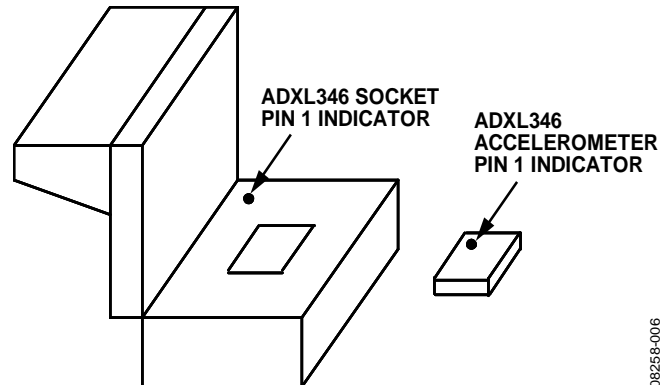

Figure 15. Location of Pin 1 Indicators for the ADXL346 Accelerometer and Socket
2. Place the ADXL346 accelerometer into the socket on the satellite board. The Socket Pin 1 Indicator is located inside the socket close to the hinge, as shown in Figure 15. This pin